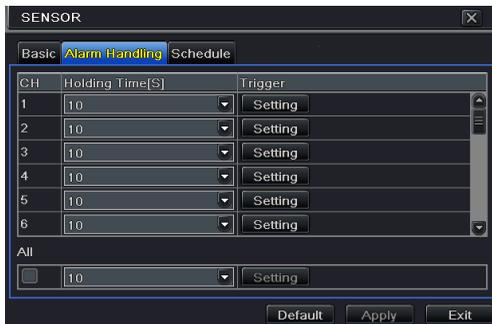

Fig 4-17 Alarm Configuration-Sensor-Alarm Handling
- Step 5:** Enter into Alarm Handling tab. Refer to Fig 4-17. Select hold time and then click “Setting” button to pop up a dialog box as shown in Fig 4-18.